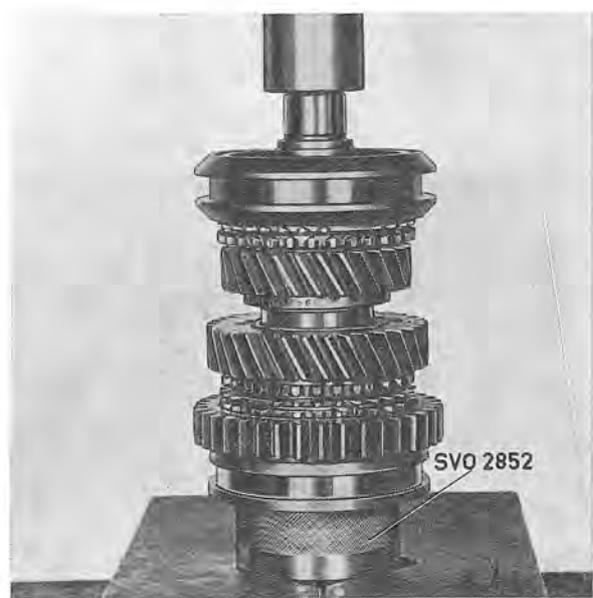

Fig. 4-27. Fitting the synchronizing
wheel and needle bearing. Make sure that the synchronizing flange locates correctly in the grooves in the synchronizing cone. Press the mainshaft into the synchronizing hub as shown in Fig. 4-27. When doing this, turn the 3rd speed gear wheel in order to check that this gear as well as the needle bearing fit correctly. Try out a circlip which fills the groove well and fit the circlip.
3. Place 1st-2nd speed synchronizer, synchronizing cone, 2nd speed gear wheel and needle bearing on ring SVO 2852. Make sure that the gear ring on the engaging sleeve comes forwards and that the flanges fit correctly in the grooves of the synchronizing cone. Press in the mainshaft, see Fig. 4-27. When doing this, turn the 2nd speed gear wheel to prevent it from fastening. Try out a cir-